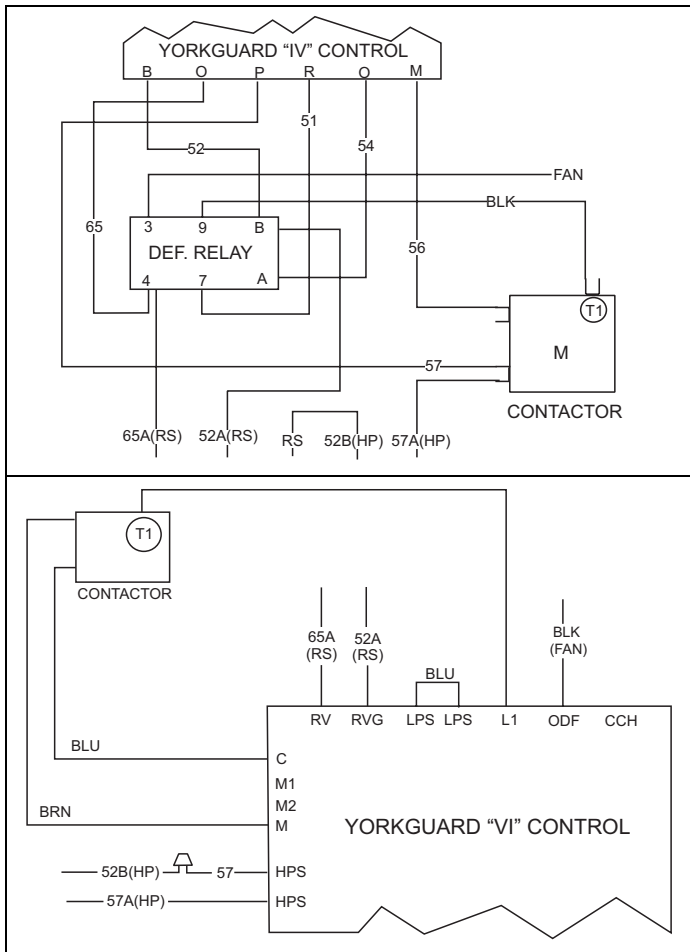

FIGURE 3: Wiring Connections for E*CS
- a. Remove wire nut holding Yellow (HP) [BLK], Black (RS) [52B] and Blue wire. Terminate the black (RS) [52] wire with an insulated 1/4" terminal and plug into RVG terminal on control.
- b. Remove the Black (RS) [65A] wire from the defrost relay and plug into the control at RV terminal on control.
- d. Remove the following wires from the defrost relay and dispose of the wires: (As shown in Figure 3)
- e. Remove Yellow [57] wire from contactor and strip end with plug (previously connected to the control.) Wire nut to Yellow (HP) [BLK] wire from (a) above. Plug into control at HPS.
- f. Remove Yellow (HP) [BLK] wire from contactor and plug into control at HPS.
8. Re-wire per Figure 3 for E*CS.
- a. Remove the 65A (RS) and 52A wire from the defrost relay and plug into the control at RV and RVG.